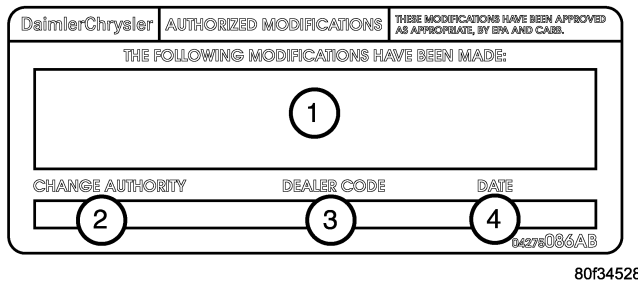

Fig. 1 AUTHORIZED MODIFICATION LABEL
13. Type the necessary information on the "Authorized Modification Label" p/n 04275086AB and attach near the VECI label (Fig. 1).